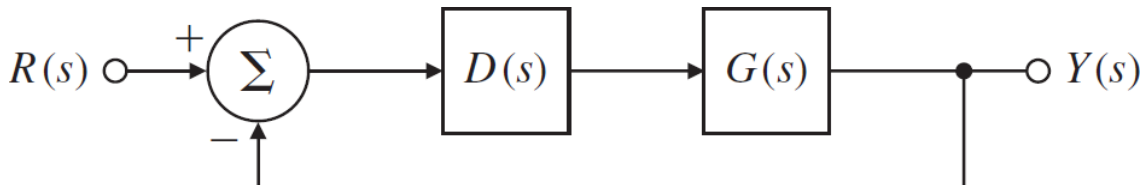

Fig. 3.64
11. Consider the system shown in Fig. 3.64, where